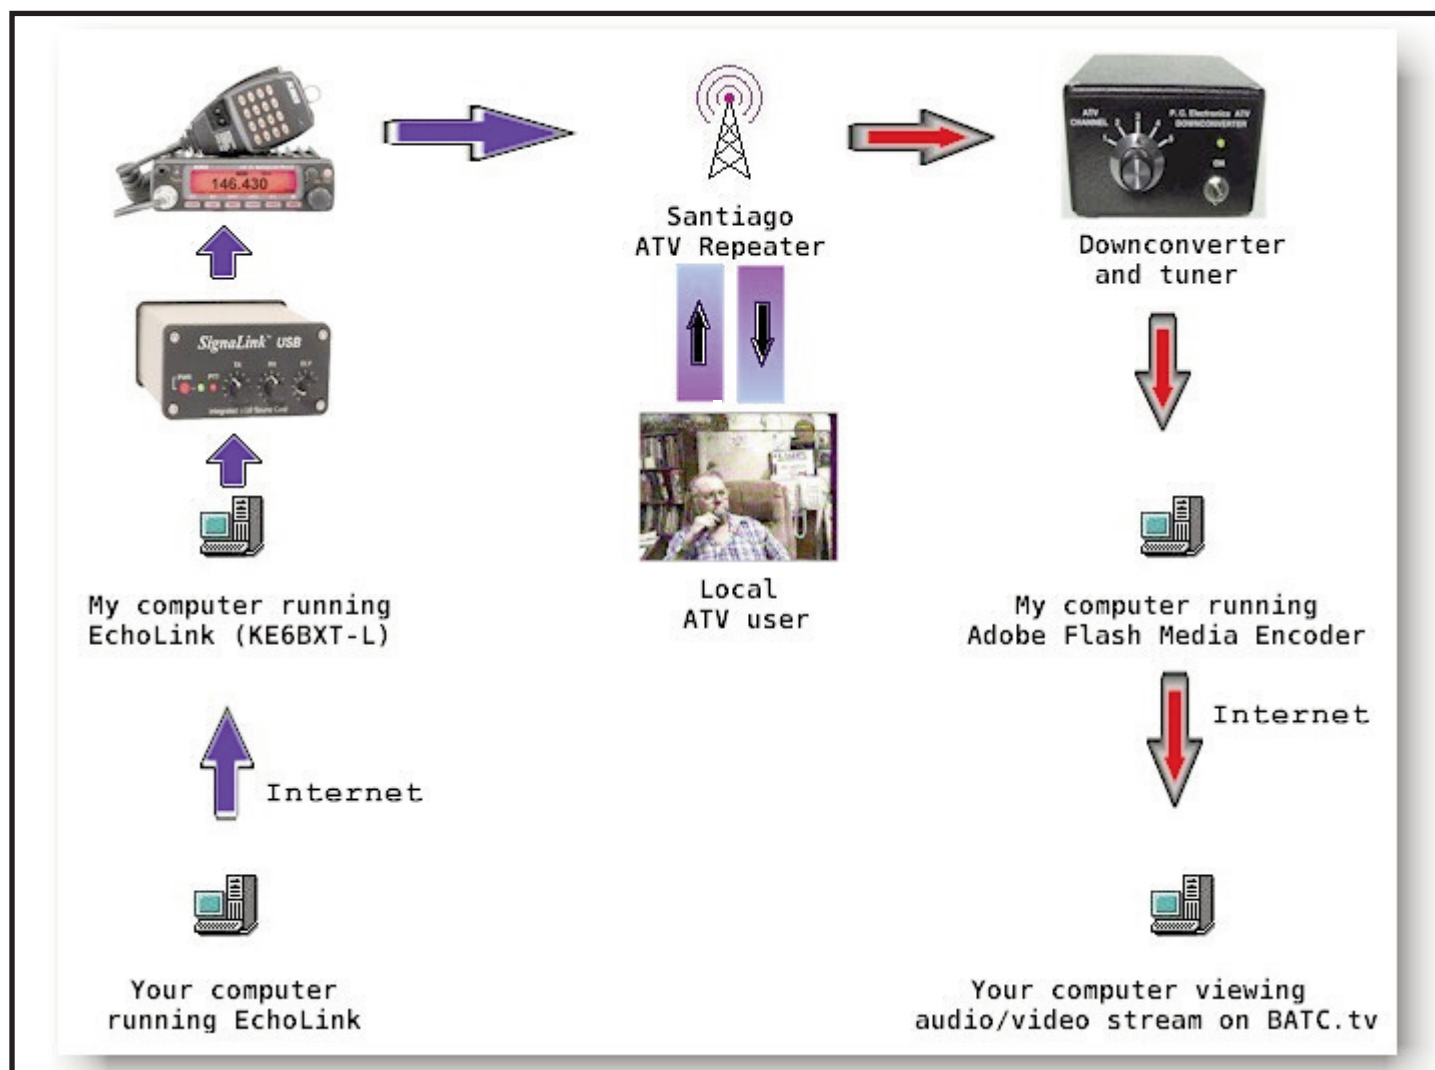

Figure 1. ATN-EchoLink block diagram. Note: There is a 15-25 sec delay in the red arrow loop.
**Figure 1** shows a simplified block diagram of how the EchoLink and Streaming video interfaces works.